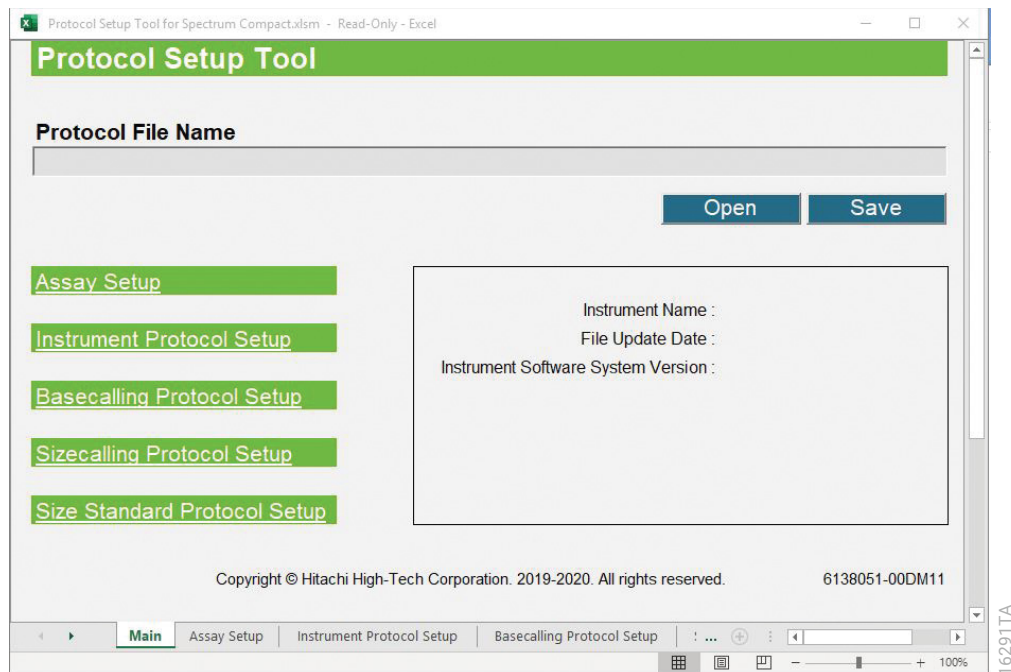

Figure 190. Main worksheet of the Protocol Setup Tool for Spectrum Compact.
1. Open the 'Protocol Setup Tool for Spectrum Compact.xlsm' Excel® macro-enabled workbook. The 'Main' worksheet will be displayed (Figure 190).
5. Information on individual protocols or assays can be accessed by either selecting **Setup** on the ‘Main’ worksheet or selecting the tab at the bottom for the appropriate setup worksheet (Figure 190).
1. Open the ‘Instrument Protocol Setup’ worksheet by either selecting **Setup** on the Main worksheet or selecting the tab at the bottom for the appropriate setup worksheet (Figure 190).
7. Select the 'Main' worksheet tab followed by **Save** (Figure 190). A 'Save As' browse window appears. Browse to the location (e.g., a USB drive) where you wish to save the new protocol .xml file and save to a folder named Protocols within that location (if folder does not already exist, create a new folder with that name).
1. Open the 'Basecalling Protocol Setup' worksheet by either selecting **Setup** on the Main worksheet or selecting the tab at the bottom for the appropriate setup worksheet (Figure 190).